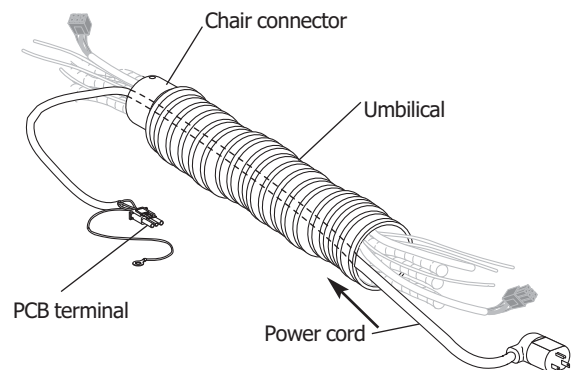

Figure 7
- Route the chair power cord through the umbilical so that the PCB terminal is on the chair end of the umbilical (see Figure 7).